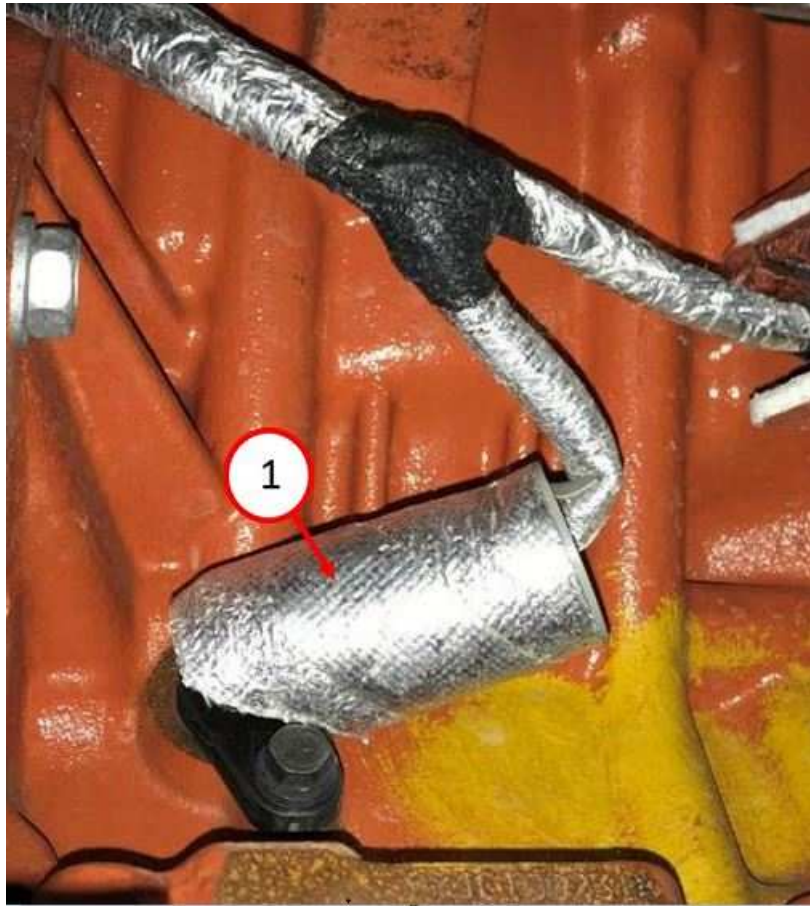

Fig. 4
5. Reinstall the heat shield on the crank sensor (Fig. 4) .